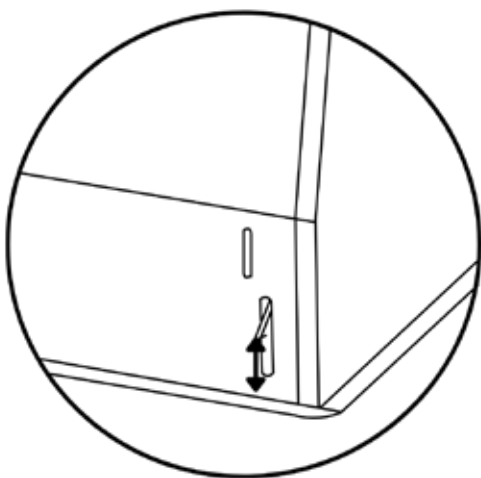

Fig.6
1. To install the appliance, adjust the position of the adjustable side-springs using the supplied screws (Fig.6), according to the thickness of the board, in which the appliance will be fixed.